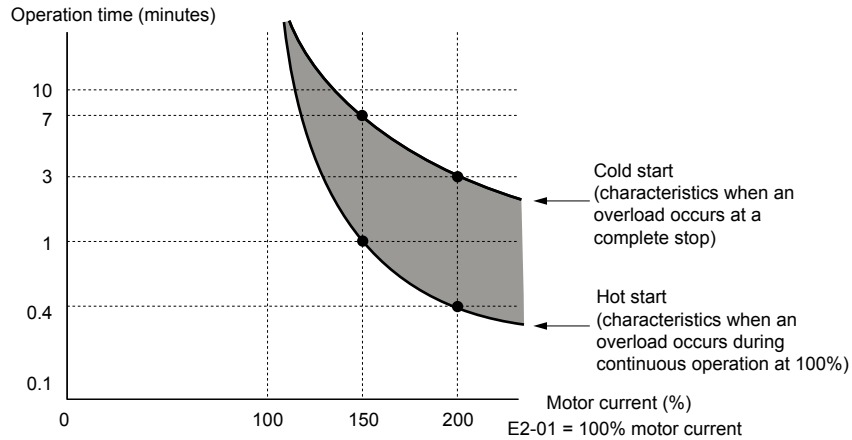

Figure i.47 Protection Operation Time for General Purpose Motors at the Rated Output Frequency
**Figure i.47** illustrates an example of the electrothermal protection operation time using a general-purpose motor operating at the value of E1-06, Motor Base Speed, with L1-02 set to one minute.